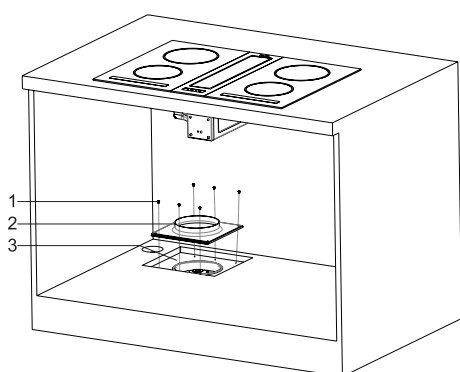

Fig. 32
13. Insert the flue ingress plate on the motor box with the screws that you have removed (Fig. 32).